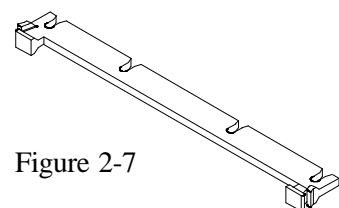

Figure 2-7
- ❑ HSS Top Bar (HSSTOP) - Plastic bar that clips onto the HSSBASE through the fins on the ATX heat sink. (Refer to Figure 2-7)